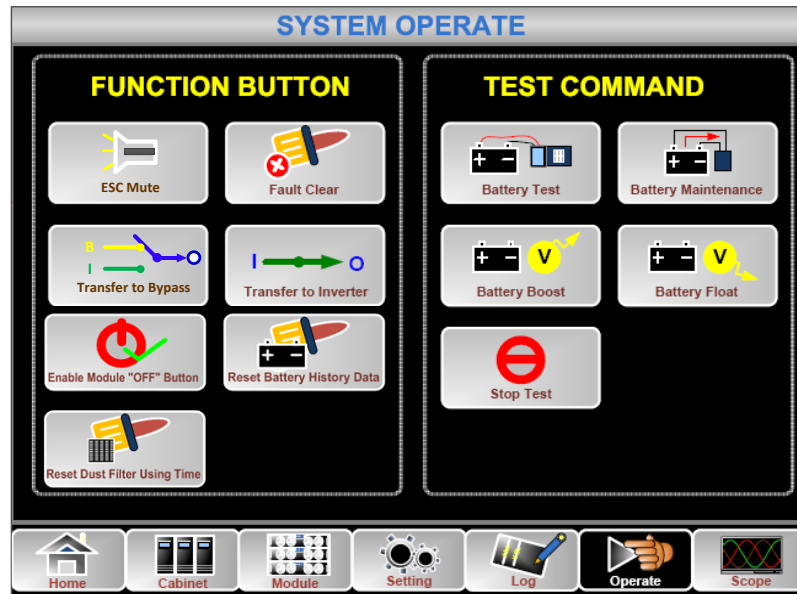

Fig.5-4 Battery maintenance
1. Manual Discharging test. Enter the menu Operate, as is shown in Fig.5-4 and touch the icon “Battery maintenance”  , the system transfers into the Battery mode for discharging. The system will stop discharging when the battery will have 20% of capacity or in low voltage. Users can stop the discharging by touching the “Stop Test” icon .